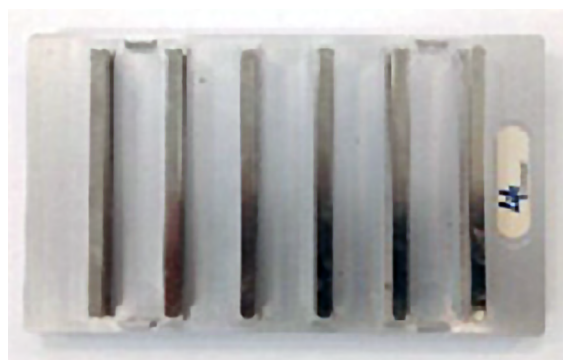

Figure 1. Magnetic plate DynaMag™-96 side skirted (Cat. No. 12027)
- Magnetic plate DynaMag™-96 Side Skirted (Thermo Fisher Scientific, Cat. No. 12027; **Figure 1**) facilitates manual washes of the 96-well plate. If assay automation is necessary, BioTek 405™ LS Microplate Washer (BioTek Instruments) will suffice.